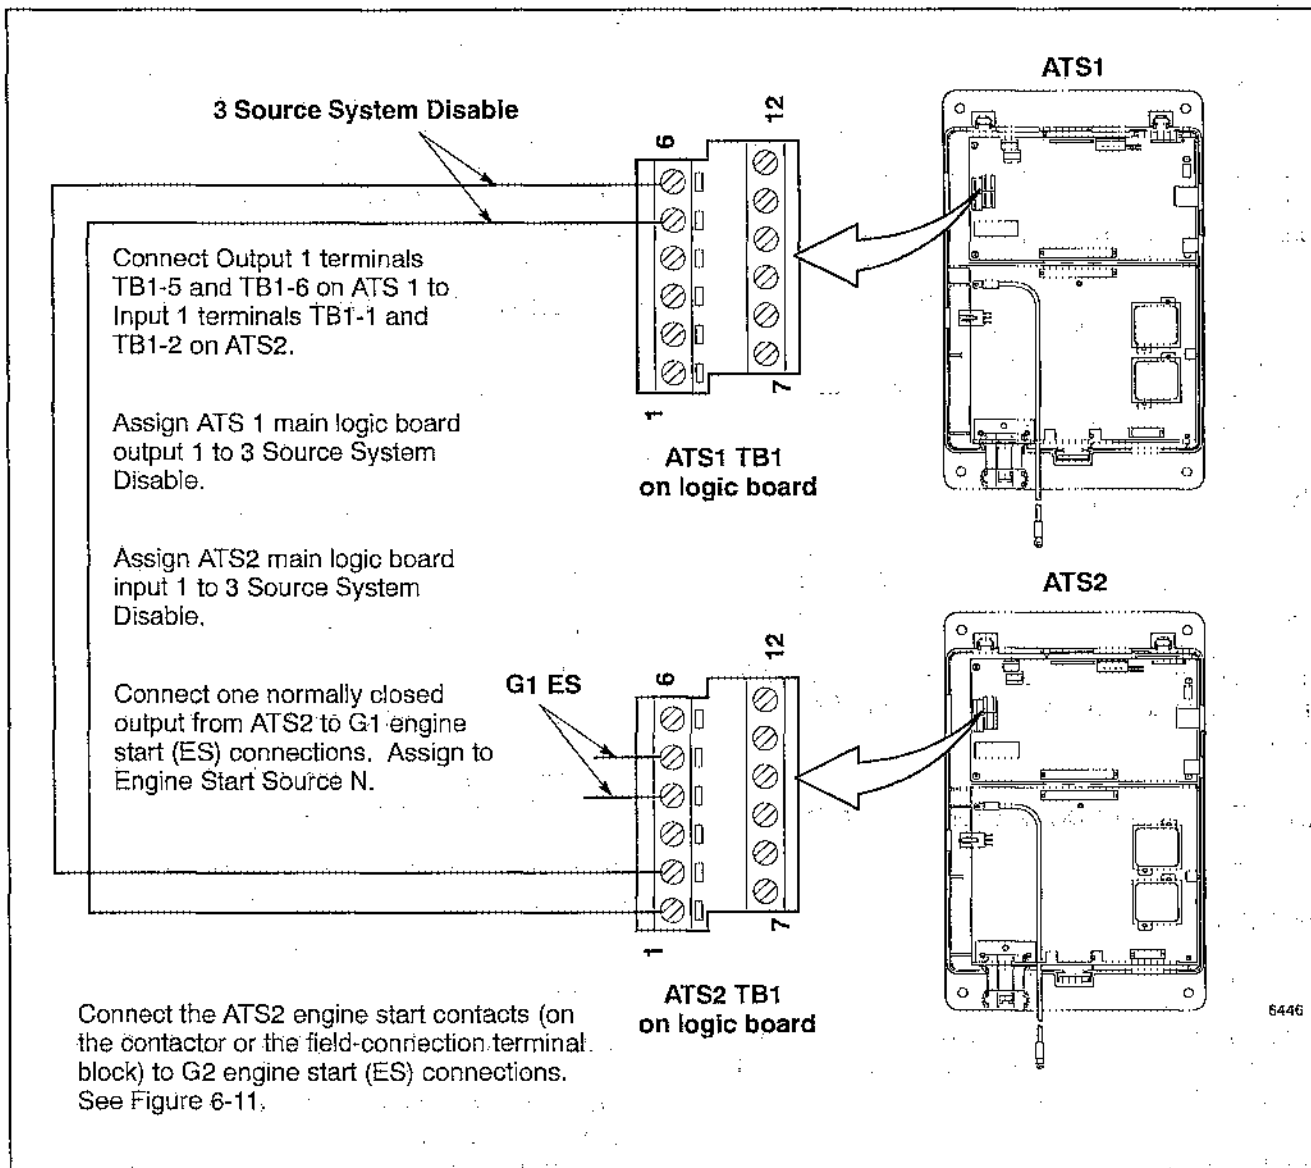

Figure 6-12 Input and Output Connections for Three-Source Systems
See Figure 6-11 and Figure 6-12 for connections during the following steps.
2. Three-source systems require the following input/output connections to control the engine start commands for generator sets 1 and 2. Observe the polarity of all connections shown in Figure 6-12. Use wire sizes from #14 AWG to #20 AWG for EBSM and I/O module connections.
- b. Connect one ATS1 main logic board programmable output to one ATS2 main logic board programmable input as shown in Figure 6-12. This I/O connection will be set to Three-Source System Disable.